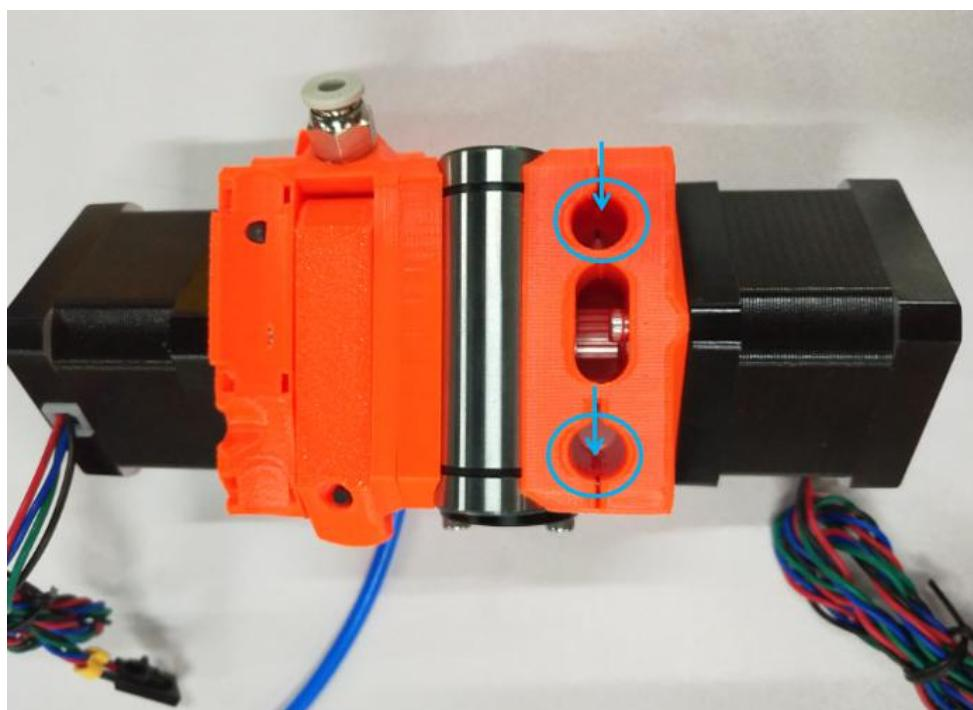

Figure 2.11.2
**Step 2-11-2:** As shown in Figure 2.11.2, knock the two smooth rods into the two through holes in the MINI-z-carriage-front ,shown in Figure ,until the end face of the smooth rod is flushed with the end face of the print.